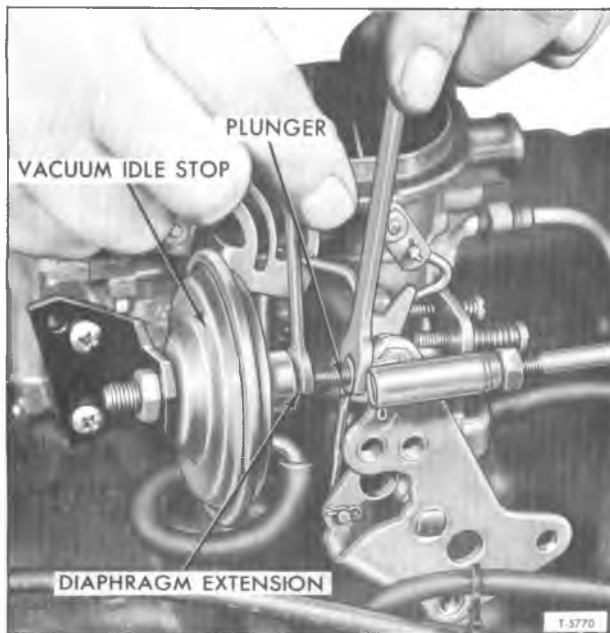

Figure 23—Adjusting Vacuum Idle Stop
- a. Referring to figure 23, place a 1/4-inch open end wrench on diaphragm extension of vacuum idle stop to prevent its rotation while adjusting plunger.